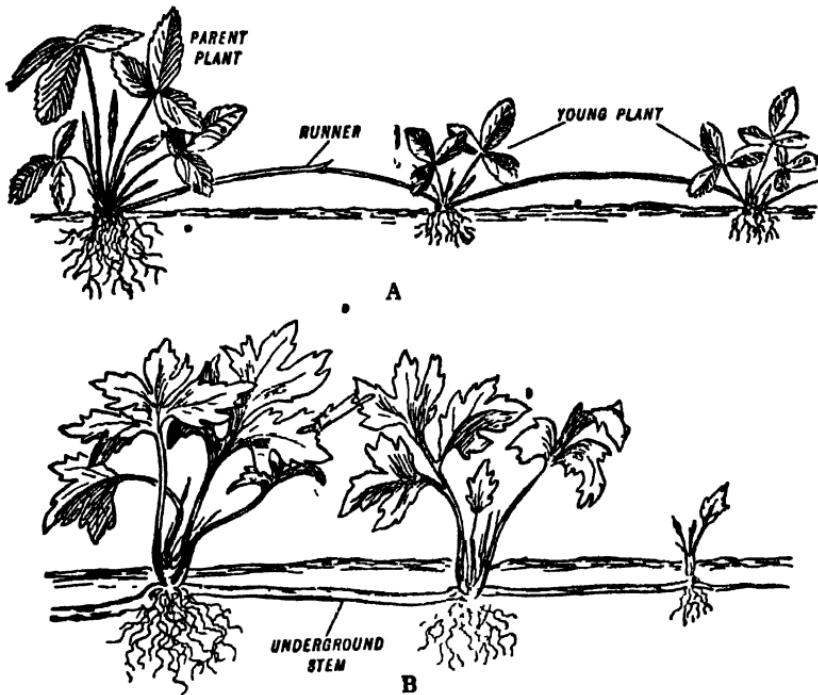

Fig. 129. Runners. A, Strawberry. B, Buttercup.
side outgrowths, but these are always like the root. Because of this it is easy to distinguish roots from stems even though the stem may be underground as in the Buttercup (Fig. 129*B*).
**1. Runners.** These are really creeping stems, which grow underground in the Buttercup, but above ground in the Strawberry (Fig. 129). Each one has a bud at its tip which can produce a new plant; roots which are adventitious grow out from its base. The creeping stem then dies and the new plant is free.